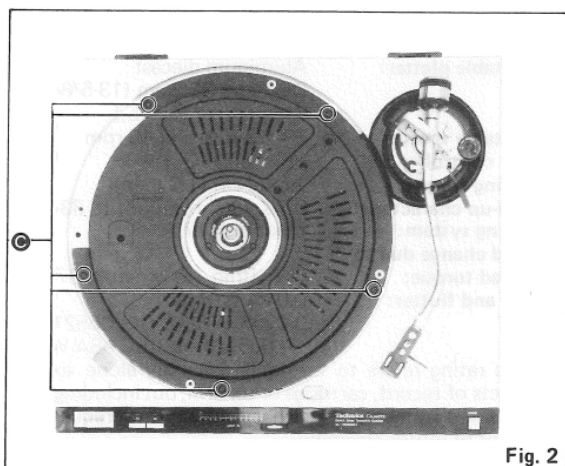

Fig. 2
8. Remove 5 screws **C** of the panel cover as shown in fig. 2.